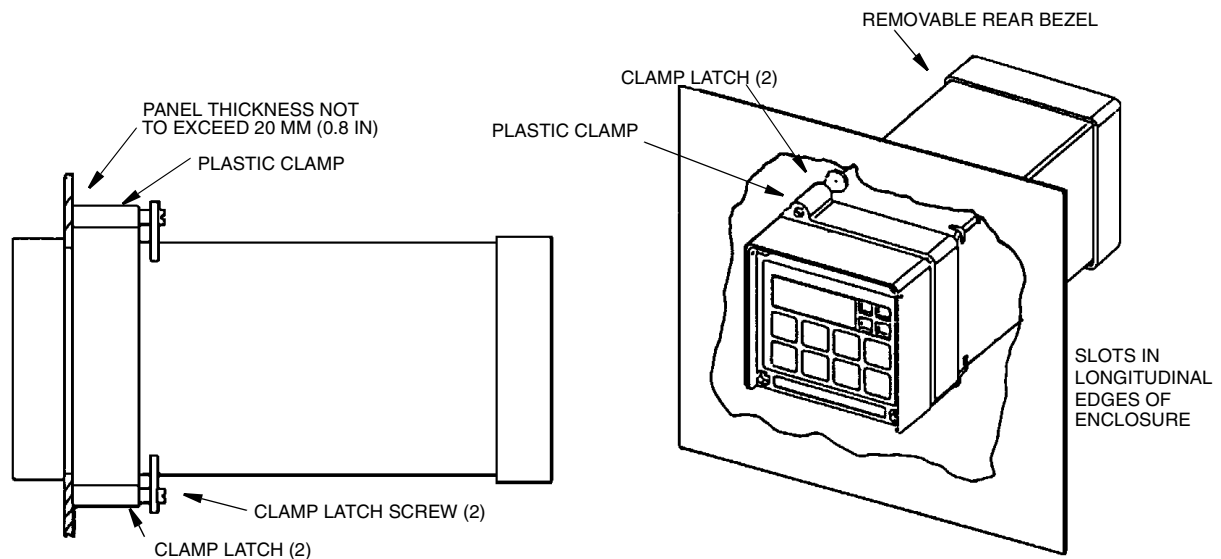

Figure 6. Mounting to Panel - Metal Enclosure
3. From the rear of the panel, slide the plastic clamp onto the enclosure until the two clamp latches snap into two opposing slots on longitudinal edges of the enclosure. See Figure 6.